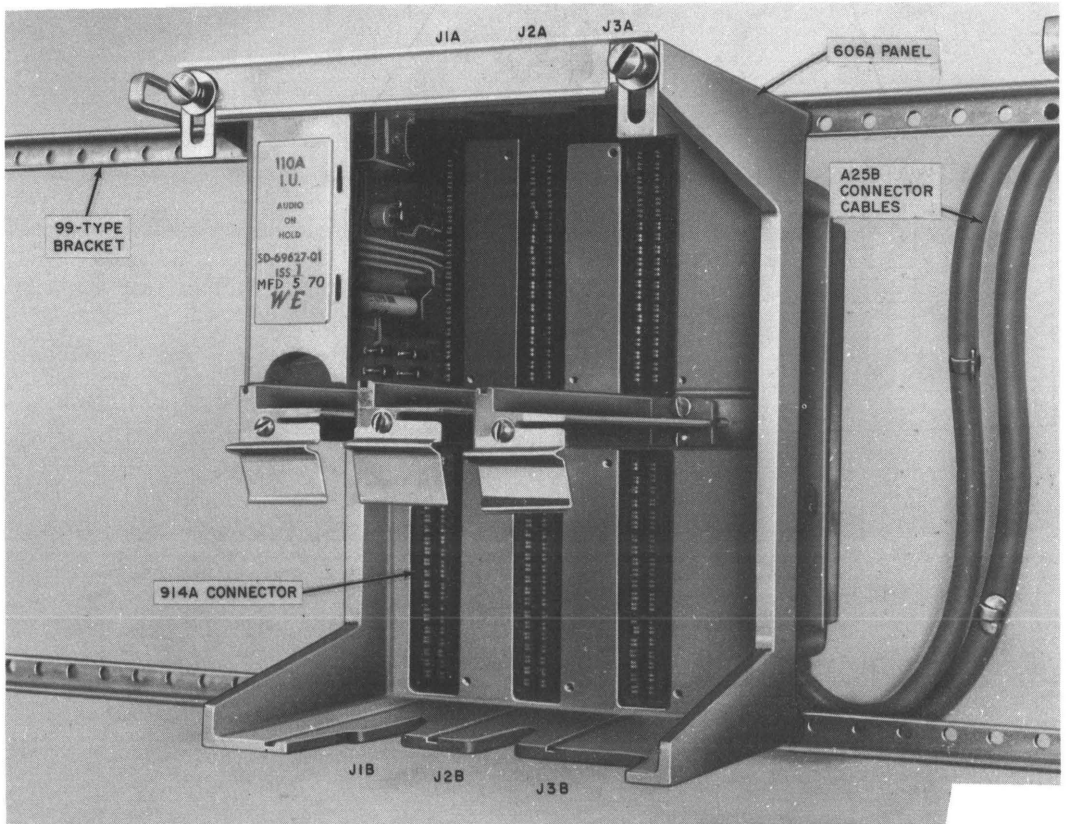
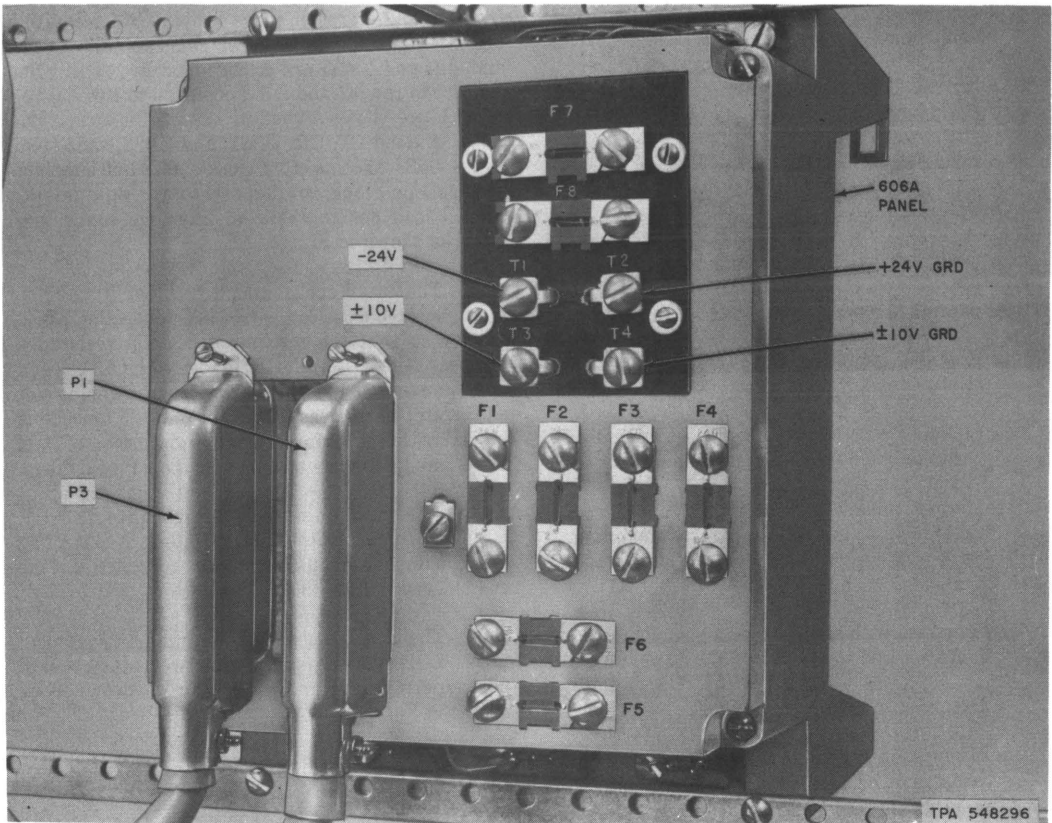

Fig. 3—606A Panel Mounted on Relay Rack
Fig. 4—606A Panel (Rear View)
**For 606A Panel (Fig. 3 and 4)**
**3.08** Electrical connection is made to the 606A panel through two A25B connector cables. These cables connect to plugs P1 and P3 (Fig. 4) on the rear of the 606A panel. P1 connects to the upper row of 914A connectors J1A, J2A, and J3A (Fig. 3), and P3 connects to the lower row of 914A connectors J1B, J2B, and J3B. Terminate the raw end of the A25B connector cables on the 66B4-25 connecting block following the wiring plan shown in Fig. 6, 7, 9, and 10. (Refer to Part 6 for wire strap and resistor connections.) Connect -24 volt power to fuse panel on rear of 606A panel (-24 volts connect to T1 and GRD connects to T2).